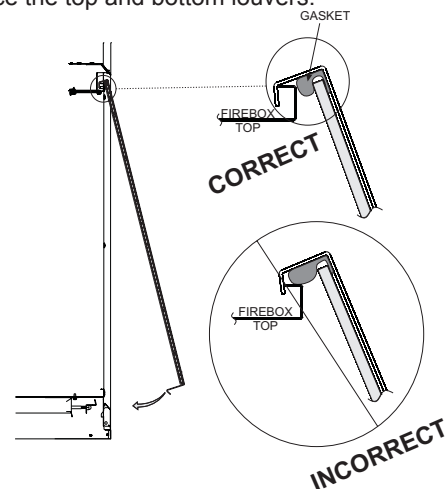

Figure 75
1. When installing the Glass Door assembly, make sure that the door top flange is hooked over the firebox top flange as illustrated in the "Correct" view in Figure 75.
**Important: Do not allow the gasket across the top of the door to roll up on top of the firebox flange as shown in "Incorrect" view in Figure 75.**